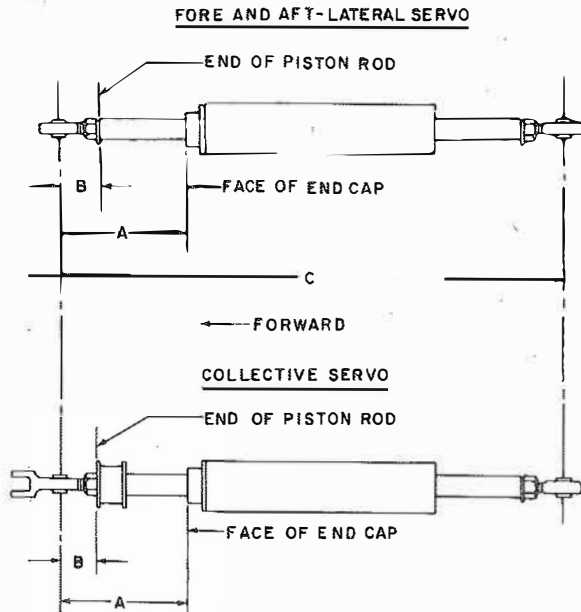

Figure 2-55. Rigging Dimensions - Main Rotor Auxiliary Servo Units
f. Using vernier calipers, carefully measure dimensions "A" and "B" (figure 2-55), on the power pistons of the auxiliary servo unit for the lengths given in table XI. Disconnect the auxiliary servo unit rod ends and adjust, if necessary, to obtain the dimensions.
INDEX, FIGURE 2-55	DIMENSIONS
The main rotor auxiliary servo unit (13, figure 2-38) is equipped with an external adjustable stop (spool) and shims on the collective power piston in the low pitch position. Insure that the external stop does not come into play at this time. If the servo unit has been incorrectly adjusted on the bench and the spool does hit before the internal stop, remove the adjacent rod end, counting the number of turns made to remove the rod end in order to insure reinstallation to dimension "B" (figure 2-55).